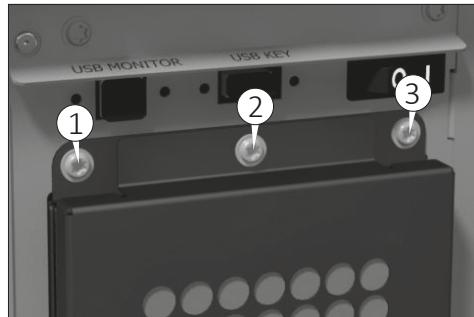

Fig. 27
- 2) Unscrew the screws (1,2 and 3 Fig. 27) using a Torx screwdriver T20.